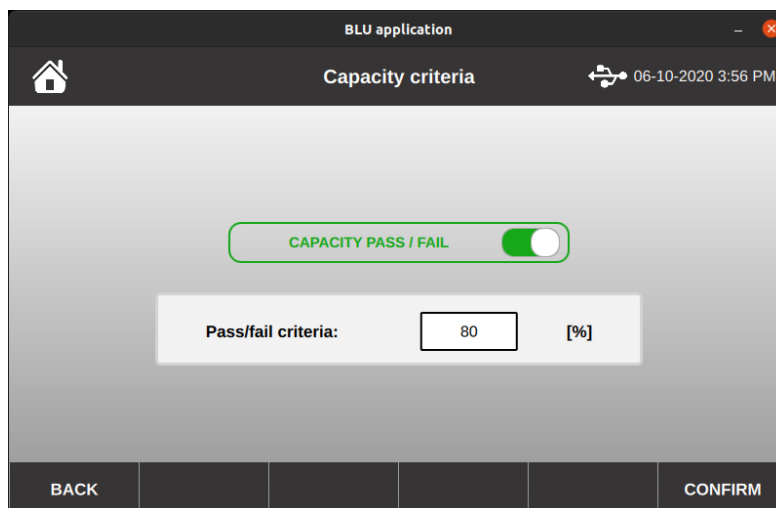

Figure 3-11: Capacity Pass / Fail criteria
*Pass / Fail* criteria for measured capacity enables to compare the measured capacity with entered nominal capacity. It is necessary the user to enter nominal battery capacity in *Test Info -> Battery info -> Capacity [Ah]* since this value will be compared with the measured capacity. The user can enter capacity pass limit in the range from 1 to 100% (80% will be stated as default), Figure 3-11.